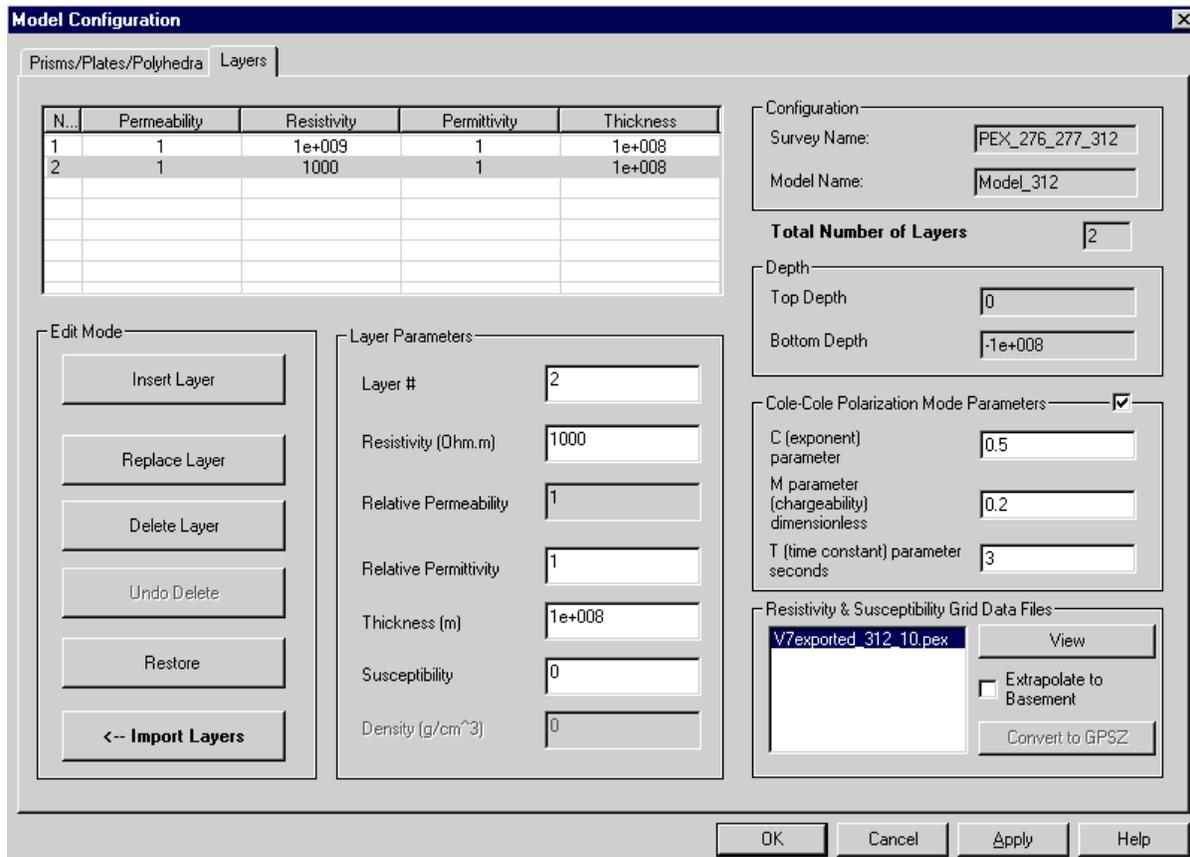

Fig. 7
In the **Layers** tab of the **Model Configuration** dialog, Fig. 7, you can define the settings of a layered-earth model to simulate the general background conductivity structure of the ground. This model is conceptually simple and accounts for such geological effects as weathering, lateralization, overburden and conductive ground water.
- Click **Import Layers** in the **Edit Mode** section of the **Layers** tab, Fig. 7. The respective dialog will appear:
- Click **OK** in the dialog to complete import and return to the **Layers** tab, Fig. 7. You now see the *List of Layers* containing the imported layers and their properties
The **Configuration** section, Fig. 7, displays the name of your current survey and the **Depth** section - information on the depth of your new layered-earth model.
- Check the **Cole-Cole Polarization Mode Parameters** box to activate the respective section of the **Layers** tab, Fig. 7